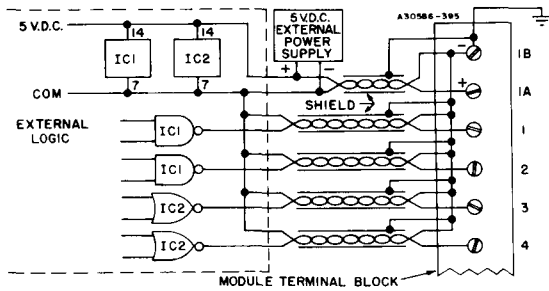

Figure 1 — Typical Wiring
Input devices are wired to the removable terminal block on the front of the module. Figure 1 illustrates the typical wiring for the first four inputs of the HIM-151 TTL Input Module. Wiring terminals 1 through 4 share common "1A" and "1B" terminals. Wiring terminals 5 through 8 share common
- The polarity of the wires connected to the terminals "A" (+) and "B" (-) must be as indicated or damage to the Module will occur (Figure 1).
- The input common terminal "1B" and "2B" on the module should be connected to the rack chassis ground to minimize noise susceptibility. Each individual cable shield must also be connected to the common terminals "B" on the module. The other end of the shield must be left unconnected (Figure 1).